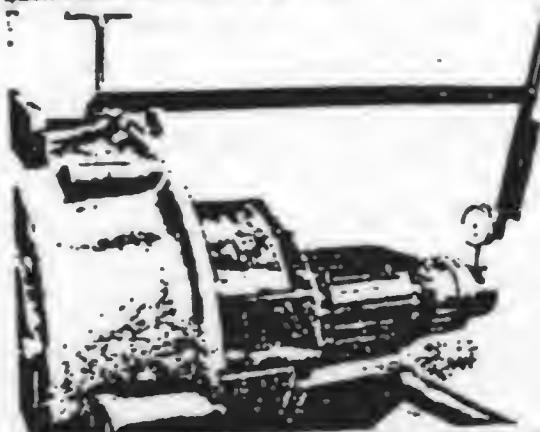

FIG. 41 CHECKING ROTOR ALIGNMENT WITH DIAL GAUGE
(1) Reassembly is accomplished by a reversal of the operation used in disassembly. Use care. Make sure that all contact surfaces between parts are clean before fitting together. Tighten all nuts, screws and connections securely. Use lockwashers in all places where they were used originally, preferable new lockwashers.
(2) After tightening the cap screws which attach the rotor drive flange to the flywheel, use dial gauge, (Fig. 41), and check the alignment of the rotor. The run-out should not exceed a total of  $.010$ ". To correct